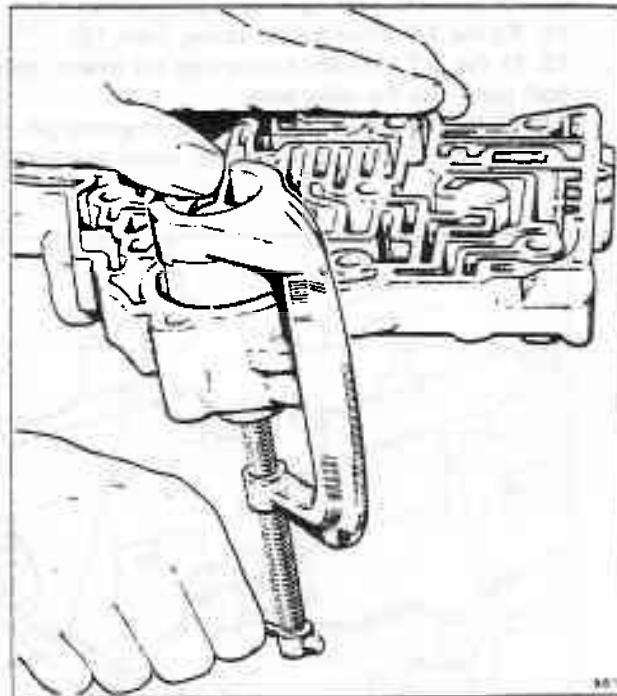

Fig. T12-14 Fitting the front accumulator piston and spring
3. Fit the valve body accumulator installing tool (J-21885). Align the piston and spring with the bore then compress the spring and piston (see fig. T12-14).
- (ii) Fit the spring and valve (items 20 and 21) into the lower left-hand bore. Use a retaining pin to hold the valve in its position.